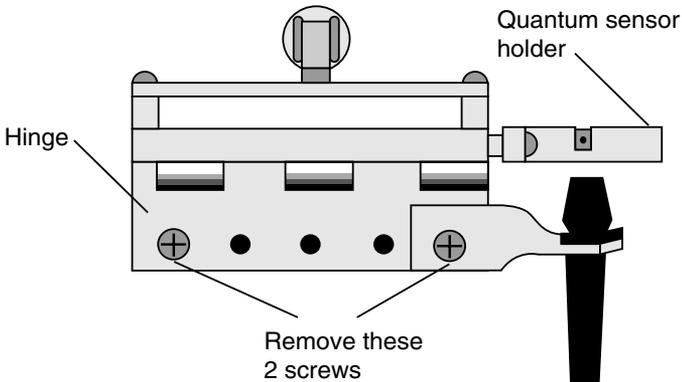

Figure 2-8. Remove the 2 screws from the handle hinge.
- b. Remove the 2 screws from the hinge on the rear of the upper half of the leaf chamber (Figure 2-8).